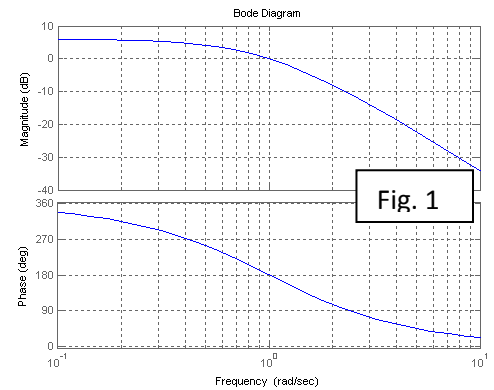

Fig. 1
1. Design a PID controller to achieve a crossover of 0.5 rad/s, 50deg phase margin, for the plant with transfer function (also shown in Fig. 1)